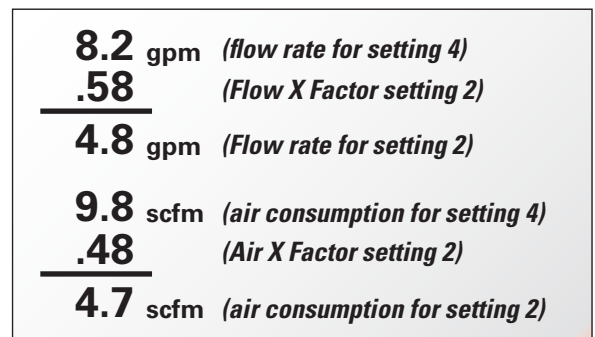

Figure 3
FIGURE 3 At completion of the stroke, the air valve again redirects air to the back side of diaphragm A, which starts diaphragm B on its suction stroke. As the pump reaches its original starting point, each diaphragm has gone through one suction and one discharge stroke. This constitutes one complete pumping cycle. The pump may take several cycles to completely prime depending on the conditions of the application.
Step 3: Calculating performance for specific EMS setting. Multiply the flow rate (8.2 gpm) obtained in Step 1 by the flow X Factor multiplier (0.58) in Step 2 to determine the flow rate at EMS setting 2. Multiply the air consumption (9.8 scfm) obtained in Step 1 by the air X Factor multiplier (0.48) in Step 2 to determine the air consumption at EMS setting 2 (Figure 3).